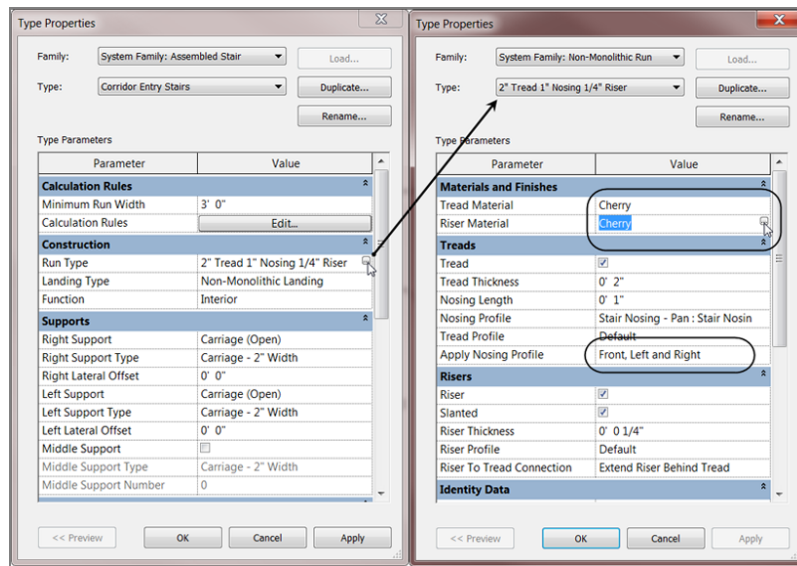

FIGURE 10.42: Customizing the stairs
18. Add Mahogany as the material to the Carriage - 2" Width. Your Properties dialog box should look like the one shown in Figure 10.42.